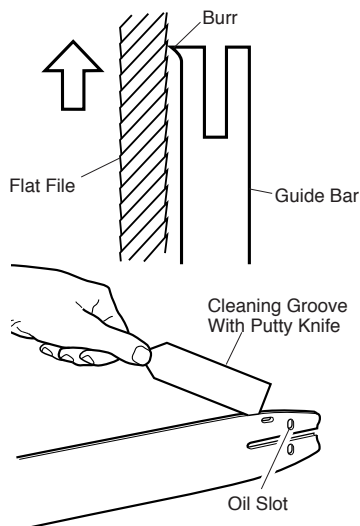

Figure 17 - Guide Bar Maintenance
2. Remove sawdust from guide bar groove periodically. Use putty knife or wire (see Figure 17).